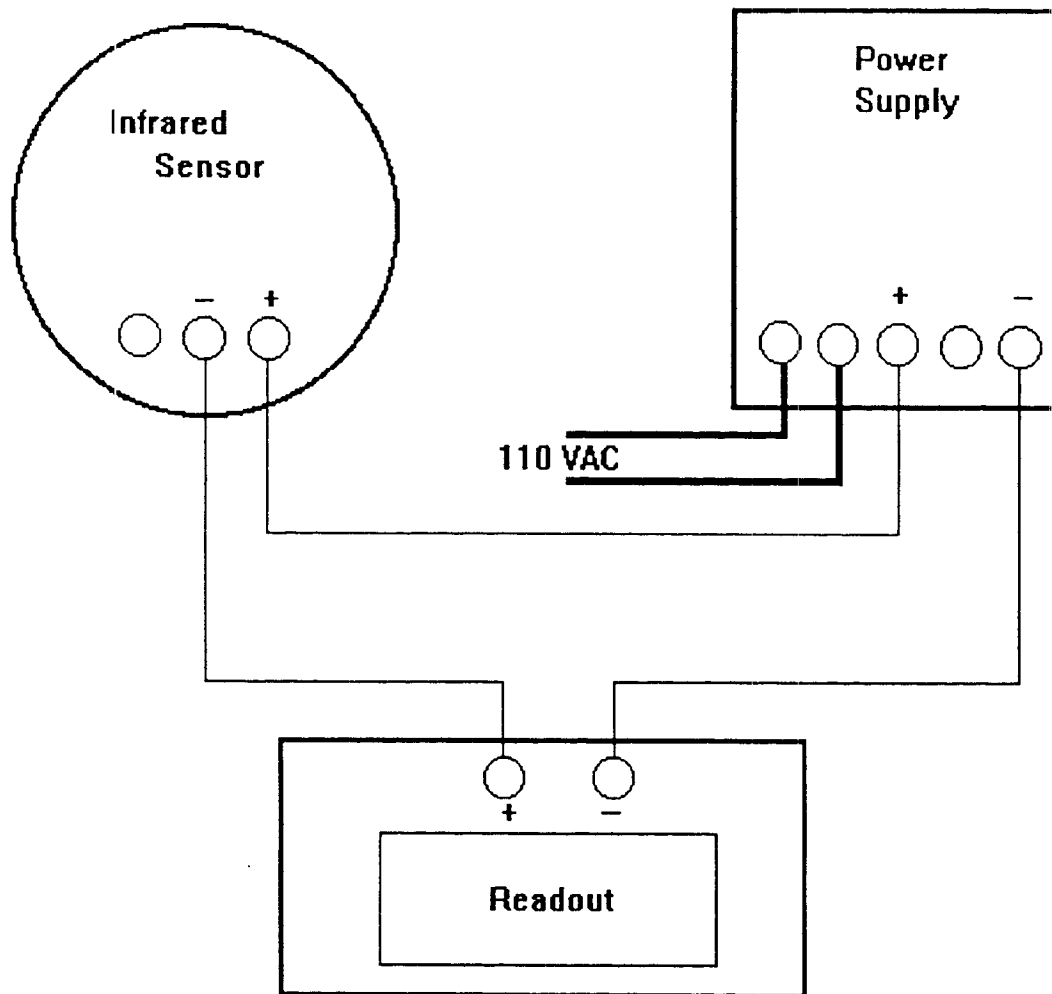

Figure 4-2. Connecting the transmitter, power supply and readout device.
The wiring of the temperature transmitter is straightforward and involves completing the current loop between the (+) and (-) terminals of the power supply as shown in Figure 4-2. Use a No. 18 (or heavier) twisted-pair cable to connect the transmitter to the power supply and readout device.
10. Install the readout device in the loop as shown in Figure 4-2. Note that this device must be loop-powered, i.e., operable on 4-20mA current. Conventional recorders, meters, controllers etc., require a separate source of ac power.
transmitters, connect the components as shown in Figure 4-2 while making the terminal connections as shown in Figure 4-3.